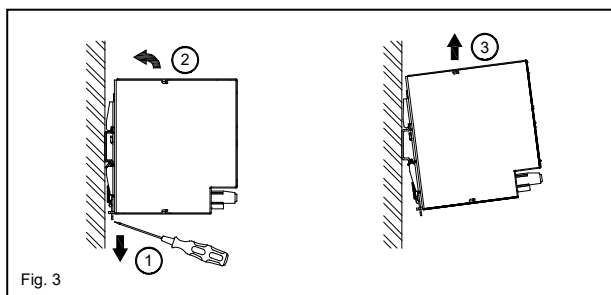

Fig. 3
4. Dismounting (Fig. 3)
To uninstall, pull or slide down the latch as shown in Fig. 3. Then, slide the PSU in the opposite direction, release the latch and pull out the PSU from the rail.